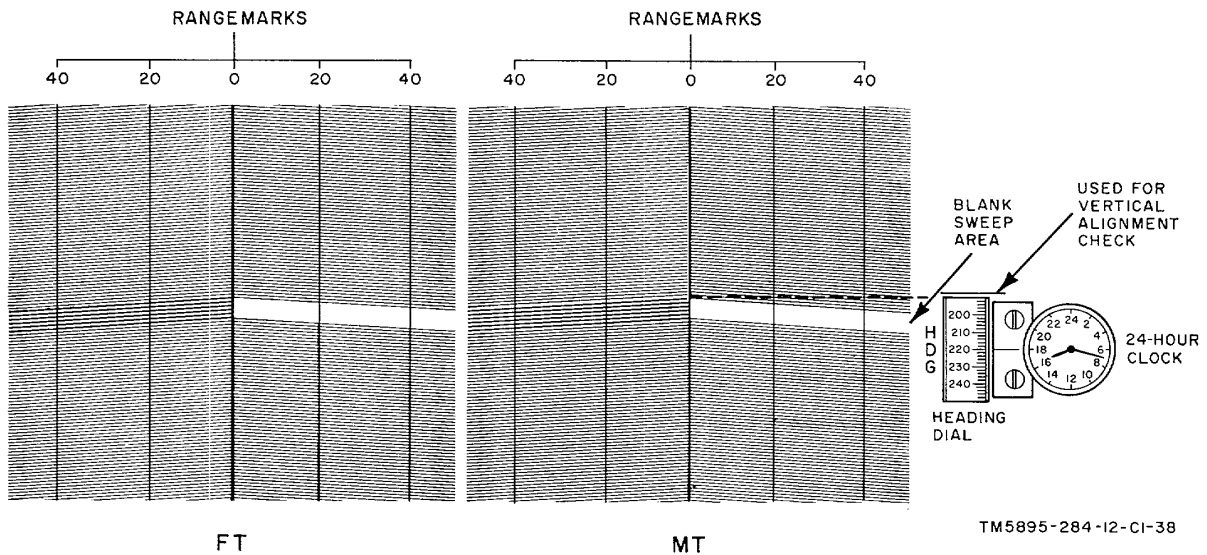

Figure 2-11. Simulated map showing correct vertical and horizontal alignment.
(17) Check the brightness of the sweep trace on the film. The trace should be barely visible. If the trace is too bright or too dim, adjust the RECORDER control FT and MT INTENSITY controls. The ends of the trace should be clearly distinguishable.
(18) Check the vertical alignment of the trace. Depress the MANUAL DATA EXPOSE switch (fig. 4-1) to expose the data chamber to the film for reference and, at the same time, set the RECORDER control ANTENNA switch (fig. 2-2) to RIGHT; release the MANUAL DATA EXPOSE switch (fig. 4-1). Wait about 15 seconds and set the RECORDER control ANTENNA switch (fig. 2-2) back to BOTH. This will cause a presentation as shown in figure 2-11. When the vertical alignment is correct, the highest part of the blank sweep area will be even with the mark (vertical alignment check) appearing just above the heading dial (fig. 2-11). If the vertical alignment is incorrect, refer to higher category maintenance for adjustment.
(19) Check the horizontal alignment of the trace. An example of correct horizontal alignment is shown in figure 2-11. If the horizontal alignment is incorrect, refer to higher category maintenance for adjustment.
The presentation in figure 2-11 is for a range setting of 50. The same presentation will result at a range setting of 25. At a range setting of 90, there will be some sweep overlap in the center and some sweep loss at the outer ends of the sweep.